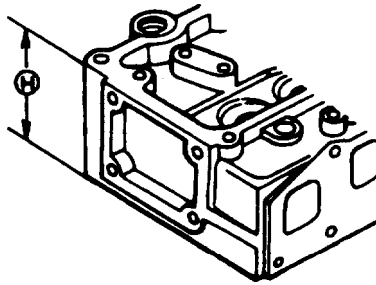

FIGURE 3-64. Cylinder Head Height (Reference)
- (2) Standard warpage should be 0.002 in. (0.05 mm) or less.
- (3) Regrind cylinder head lower face if measurement values are greater than warpage limit of 0.008 in. (0.2 mm), but less than maximum grinding limit of 0.012 in. (0.30 mm)
- (4) If warpage exceeds maximum grinding limit, cylinder head must be replaced.
- (5) Standard cylinder height as measured on fuel injector side of head is 3.620 to 3.624 in. (91.95 to 92.05 mm), with a limit of 3.612 in. (91.75 mm), refer to FIGURE 3-64.